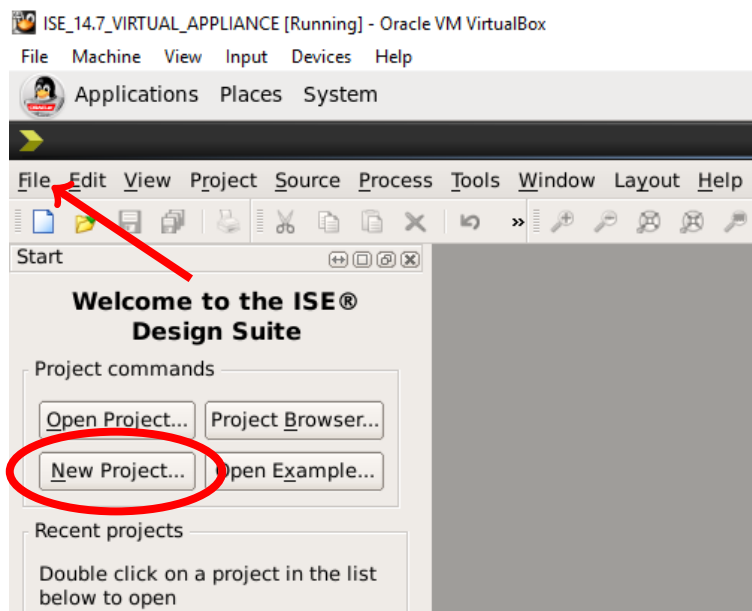

Figure 1: Splash screen in ISE Project Navigator.
2. Click **OK** on the “Tip of the Day” (if shown), then select either **File** → **New Project** or click on the **New Project** tab, shown in Figure 1.